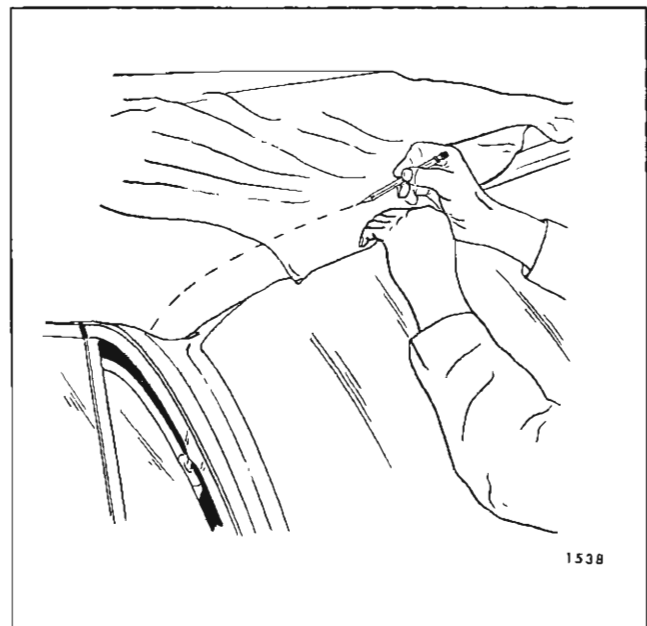

Fig. 2-I-23 — Marking Top Material At Front Roof Rail
surface of trim material along forward edge of front roof rail (Fig. 2I23).
49. Unlock top from windshield header and apply nitrile cement or neoprene-type weatherstrip adhesive to tacking area of front roof rail and corresponding surface of top material. Pull top trim material slightly forward so that pencil marks are on underside of front edge of front roof rail. Fasten top trim to cemented area and stay tack trim to rail (Fig. 2I24).